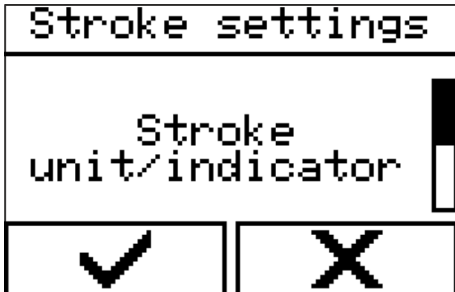

Fig. 92: Selecting a menu
1. → Select the menu via 'Control' → 'Stroke settings' → 'Stroke unit/indicator' (Fig. 92).